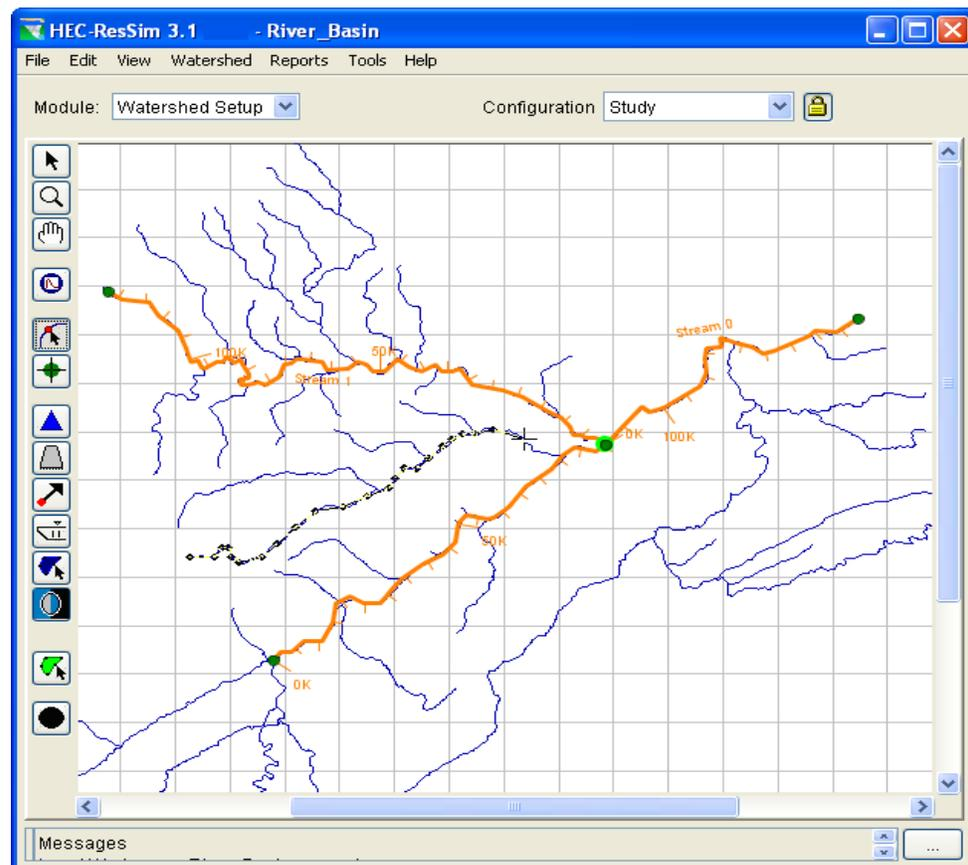

Figure 10. Drawing a Stream Alignment
- **Create a Stream Alignment Element.** The Stream Alignment must be created *from upstream to downstream*. Select the stream alignment tool  from the tool bar along the left side of the map region. Hold down the control (**CTRL**) key and click to place successive points along the stream alignment. To terminate the stream element, release the **CTRL** key and click to place the last point of the stream. As shown in Figure 10, a tributary may be connected to a stream by following the same procedure as above and terminating the stream at the point of connection to the existing stream.